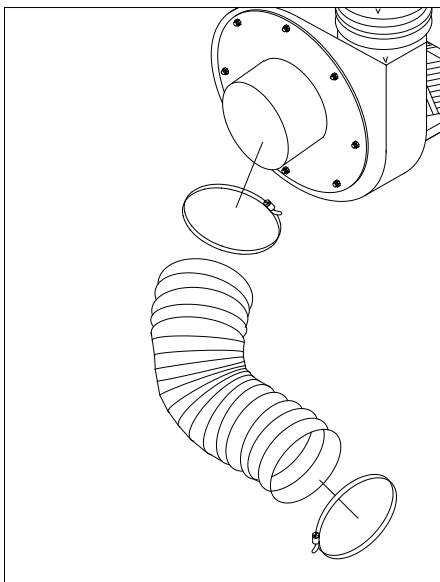
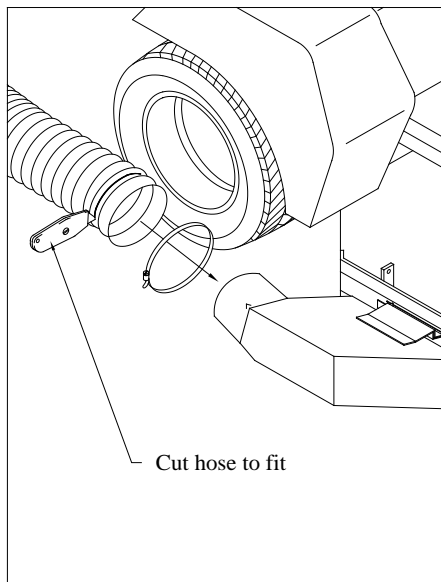

Fig. 10
Fig. 11
18. Install the rubber hose (26) to inlet (18) with hose clamps included. **Fig. 10** To fit, turn tractor as far left as possible with unit attached. Attach opposite end to chute (tractor specific) on tractor. Trim if needed. **Fig. 11**